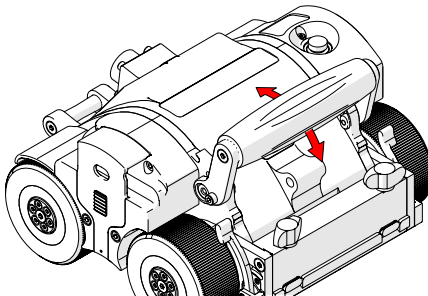

Fig. 85 - Pivot handle as desired
2. Pivot the handle as required (Fig. 85).